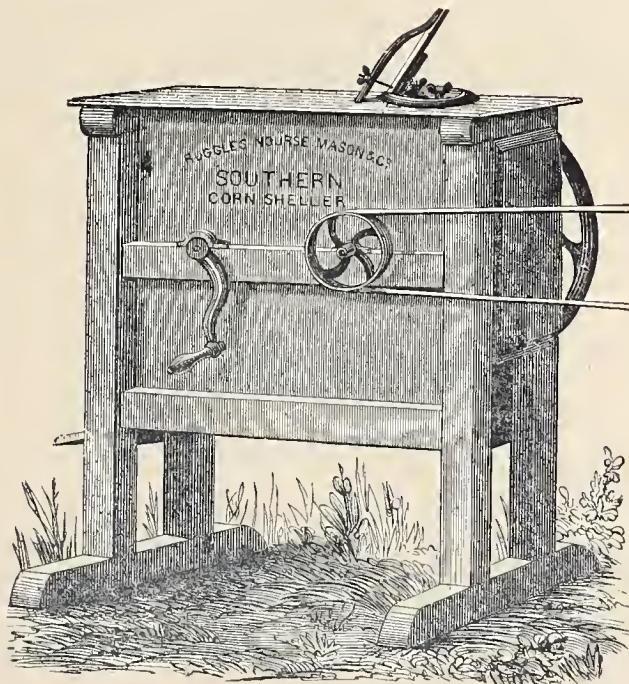

Fig. 407. — Southern Corn-Sheller with Pulley and Outside Balance-Wheel.
*The Pulley and Outside Balance-Wheel for Corn-Shellers* are shown in *Fig. 407*. The balance-wheel on the outside gives additional power, and contributes to the ease of operating the Sheller. This attachment is sometimes furnished with the YANKEE, BOSTON, and SOUTHERN SHELLERS. The pulley is sometimes furnished with the BOSTON and SOUTHERN SHELLERS, and is useful to those having band-power. When the pulley is furnished, a crank is also supplied, thus adapting the Sheller for use, either by hand or band power. The WESTERN SHELLER is always supplied with outside balance-wheel, pulley, and crank.